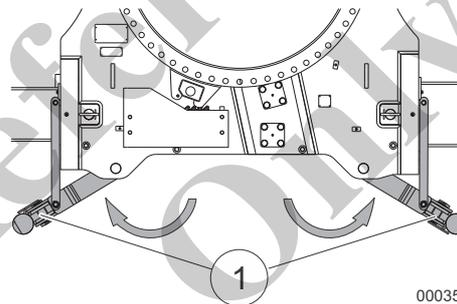

Fig. 122 Folding the outrigger cylinders
5	Fold in the outrigger cylinders (1) in Fig. 122 on the front and rear of the undercarriage as shown in the illustration.